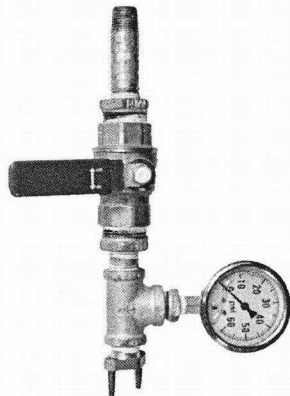

Figure 10-2: Flow test assembly
4. Flow test assembly (see Figure 10-2)
The flow test assembly consists of the following parts (see Figure 10-2).